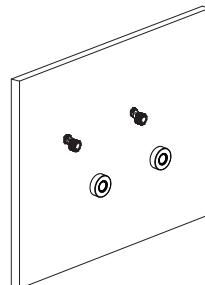

Figure 3
- d) Screw the decorative covers ⑩ on the wall (Figure 3).